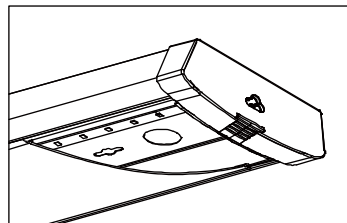

Figure 12
5. To install diffuser (B) - starting at one end of lamp base, insert diffuser slot onto edge of luminaire housing. See Figure 12. Carefully squeeze diffuser to engage opposite side with luminaire housing. Continue this action down length of diffuser until fully installed onto luminaire housing (Figure 12). Turn on breaker and test light function.